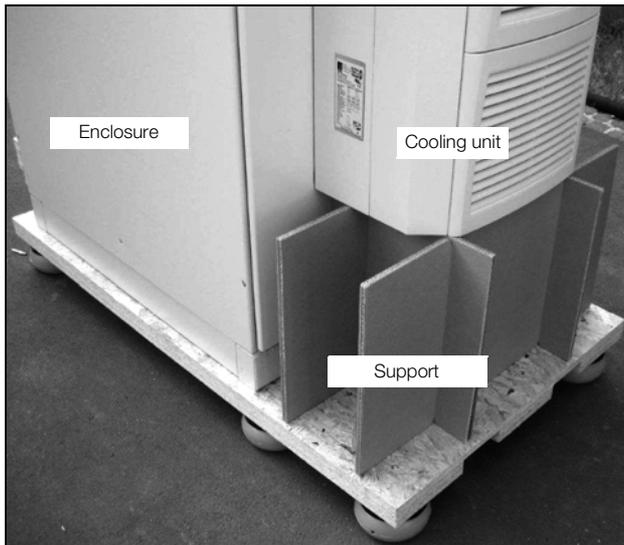

Fig. 1: Transporting an enclosure/cooling unit combination
- Shipping braces must be used when transporting a unit that has already been mounted (on the enclosure). A wooden structure made from square timbers or boards to support the cooling unit at the bottom (see fig. 1) is suitable for this purpose. The pallet should be big enough to prevent the enclosure and cooling unit overturning. If the cooling unit is mounted on a door, ensure the door is kept closed during transport.